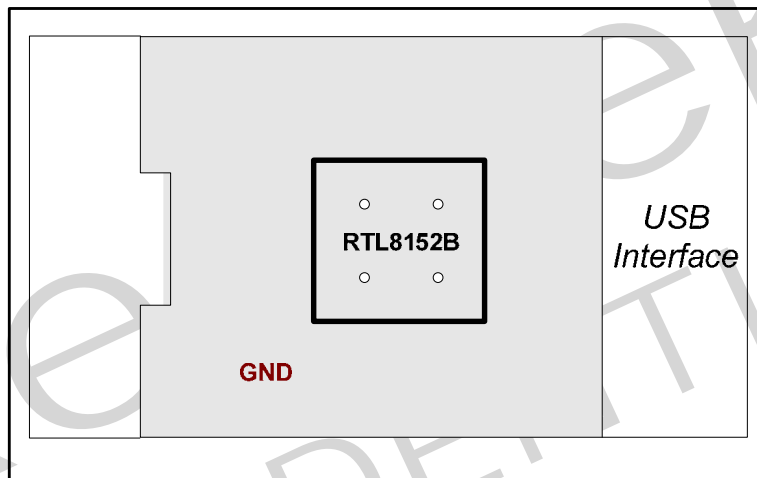

Figure 4. Ground Plane Layout-1 (RTL8152B)
- RTL8152B: The size of the center EPAD ground is 2.7mm x 2.7mm. The PCB layout requires 4 vias to connect the EPAD to the lower layer ground plane (see Figure 4)